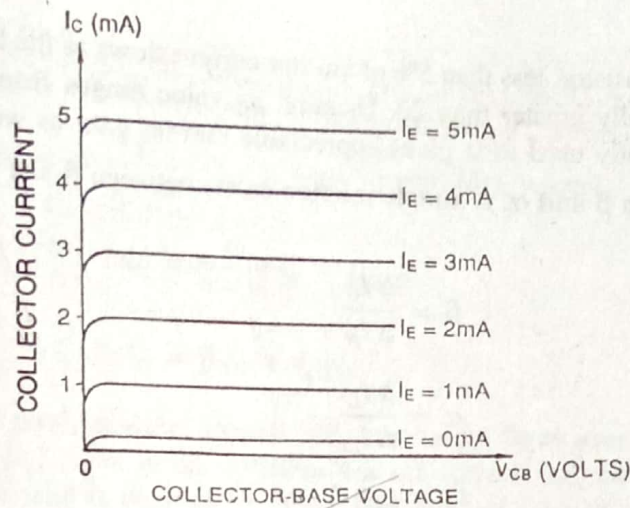

Fig. 10.15
2. Output characteristics. It is the curve between collector current I_C and collector-base voltage V_{CB} at constant emitter current I_E . Generally, collector current is taken along y-axis and collector-base voltage along x-axis. Fig. 10.15 shows the output characteristics of a typical transistor in *CB* arrangement.